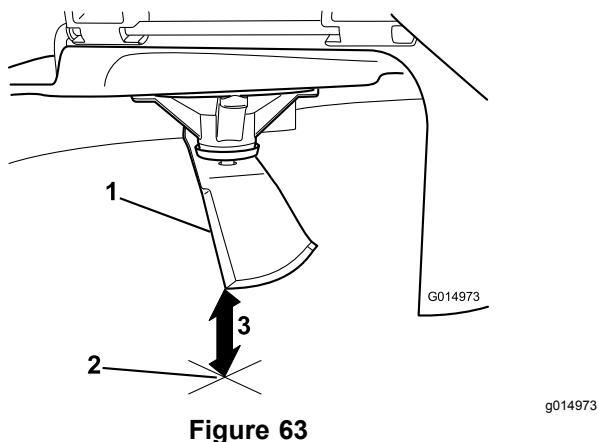

Figure 63
5. Measure from the tip of the blade to the flat surface (Figure 63).